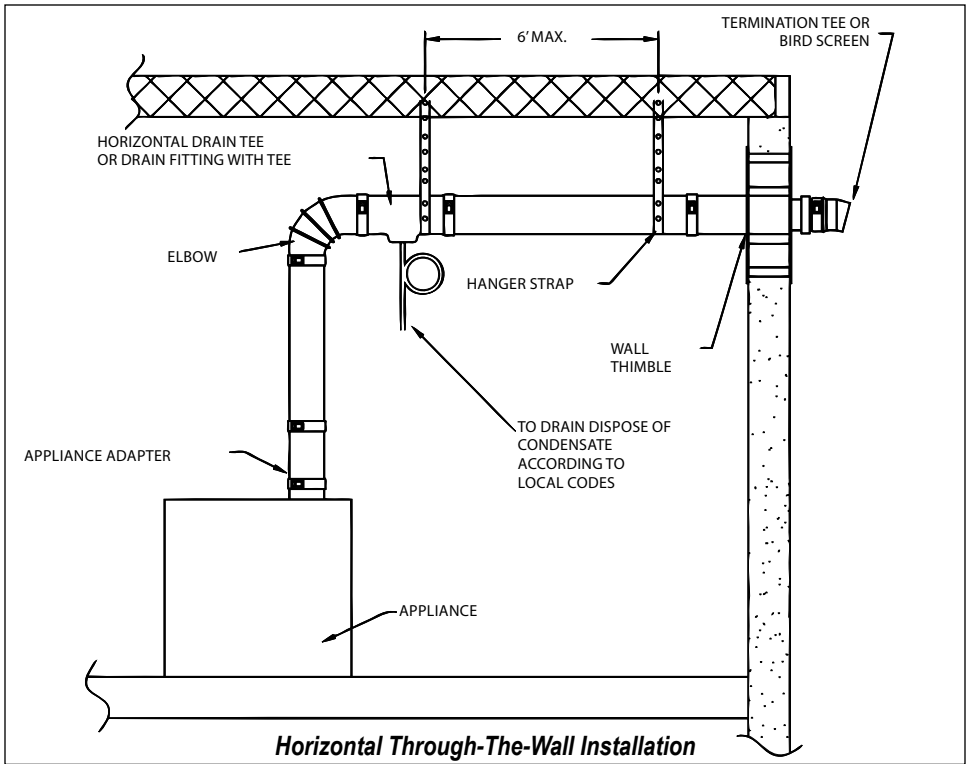

Figure 3
• For a typical Horizontal Through the Wall installation, refer to **Figure 3**. When venting through a sidewall, terminate the system not less than 12" (.3m) above the ground and above the snow line in geographical areas where snow accumulates. The termination area must be kept clear of snow and ice at all times.